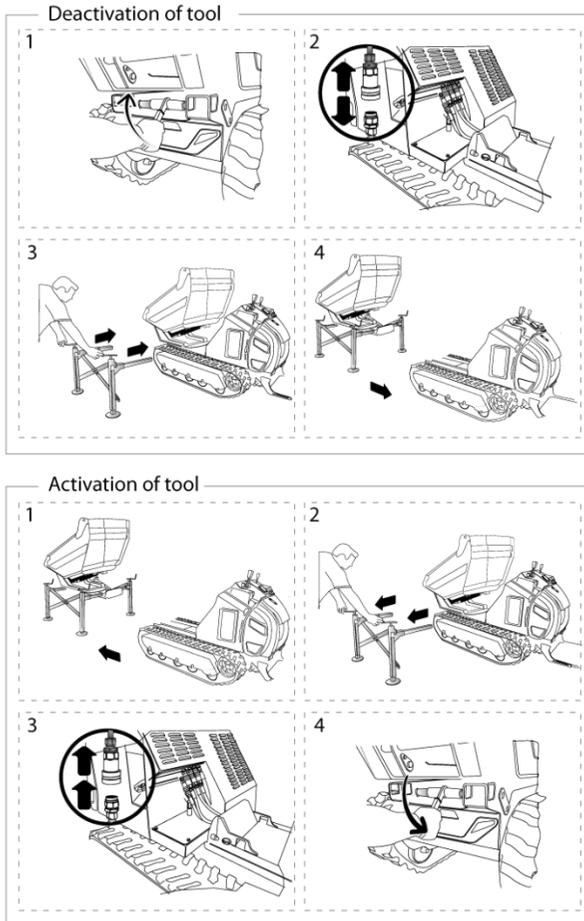

fig. 14 – Representation of the quick attach and release system of the tools
fig. 14 b – quick attach couplings
WARNING: The coupling may be hard to make; clean the area thoroughly, unload the levers ⑤ as shown above and try again (see fig. 14 b)